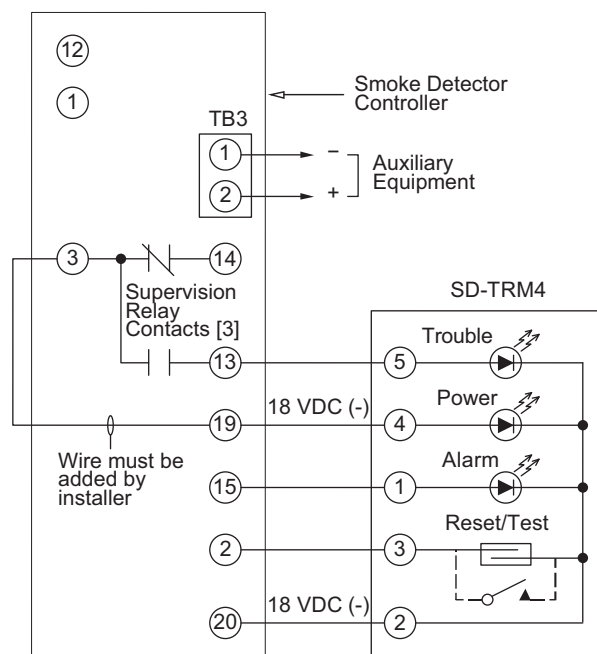

Fig. 47 — Remote Test/Reset Station Connections
The test/reset station dirty sensor test checks the test/reset station's ability to initiate a sensor dirty test and indicate the results. It must be wired to the controller as shown in Fig. 47 and configured to operate the controller's supervision relay. For more information, see "Dirty Sensor Test" on page 33.
1. Verify that the remote test/station is wired as shown in Fig. 47. Repair or replace loose or missing wiring.